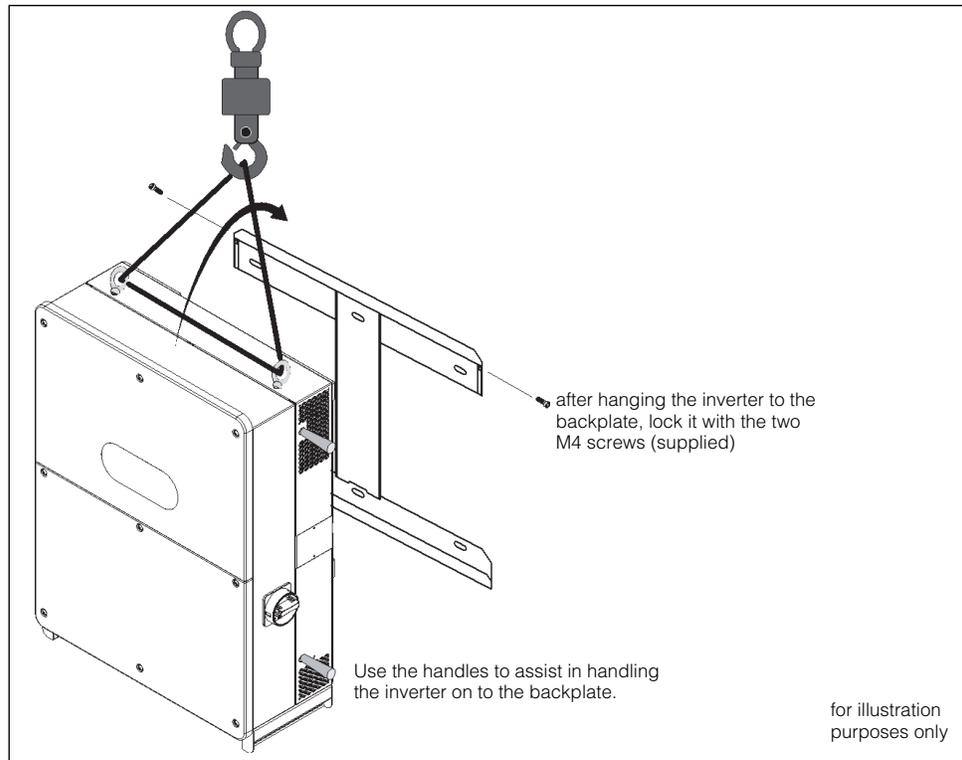

Figure 2-9 Mounting the CL125
10. Thread a rope with sufficient tensile strength to lift up to 100 kg through the lifting rings as shown in Figure 2-9.
12. Lock the inverter to the backplate by fastening the two screws (M4x16) as shown in Figure 2-9.
9. Thread a rope with sufficient tensile strength to lift up to 100 kg through the lifting rings. See Figure 2-9.
10. Mount (hang) the inverter manually onto the backplate preferably using a portable crane system. See Figure 2-9, “Mounting the CL125” on page 2–12 for a similar illustration. See “Handling Precautions” on page 2–6.
11. Lock the inverter to the backplate by fastening the two screws (M4x16). See Figure 2-9, “Mounting the CL125” on page 2–12 for a similar illustration.